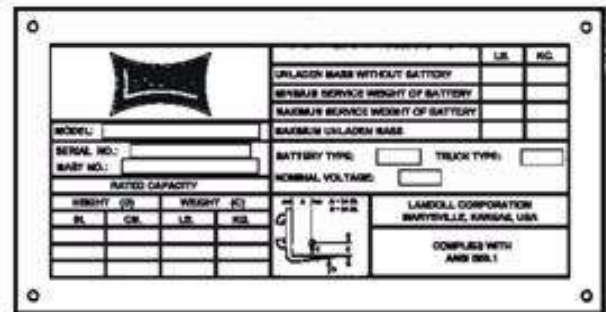

Figure 1-1: Serial Number and Capacity Plate
When ordering parts that will be used for the repair an maintenance of your Landoll AC truck, the model and serial number of the truck being repaired will be required. This information is located on the serial number and capacity plate located in front of the battery compartment. See Figure 1-1.
- Make certain the charger being used matches the voltage and amperage of the truck battery. This voltage is listed on the truck serial plate. See Figure 1-1.